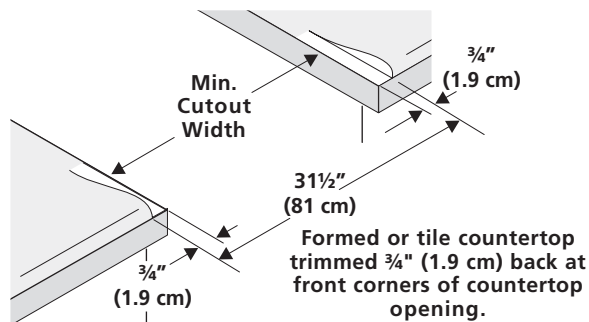

Figure 2
- **Formed front-edged countertops** must have molded edge shaved flat  $\frac{3}{4}$ " (1.9 cm) from each front corner of opening (Figure 2).
- **Tile countertops** may need trim cut back  $\frac{3}{4}$ " (1.9 cm) from each front corner and/or rounded edge flattened (Figure 2).